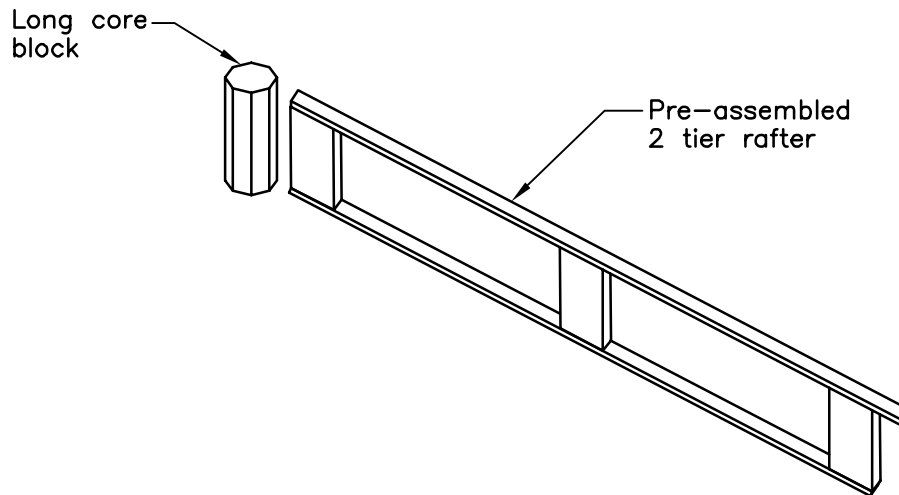

FIGURE S19
- The TWO TIER Rafter section will be assembled at this point. Toenail the Long Core Block to one of the Two Tier Rafter sections making sure that the Core Block is flush with the top of the Top Rafter. See Figure S19.